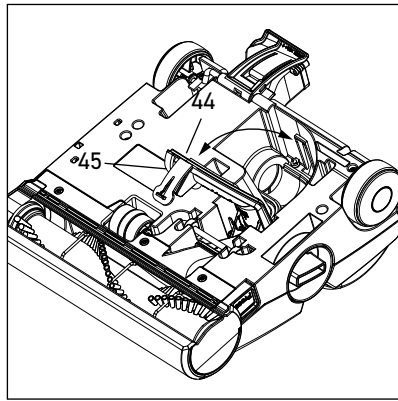

Figure 15
Most clogs can be removed by accessing the airflow pathway via the orange access door (44) located on the underside of the power head. Push the latch (45) to release the door and swing it open (figure 15). After removing the blockage, swing the access door (44) closed until the latch (45) clicks shut.